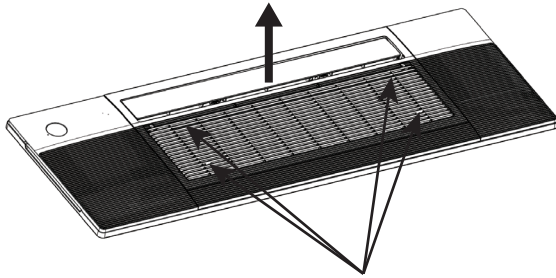

Fig. 7.1 Grab at these locations
1. Carefully grab the air intake grille with your fingers and slowly pull it out and allow it to hang from the panel as shown in **Fig. 7.1** below. This is necessary to access some of the holes for the mounting screws to attach the panel to the unit.
- All wiring must be performed in accordance with the wiring diagrams shown in Fig. 7.1 and demonstrated in the images shown here.